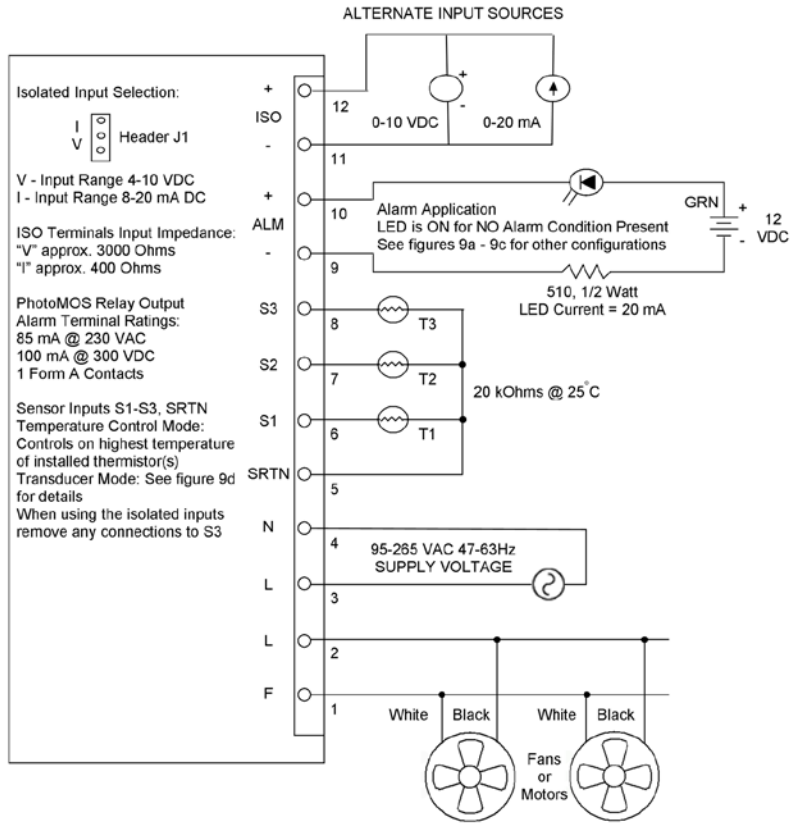

Figure 9: Wiring Diagram
**Fan Connections:** Connect fan or fans to positions marked F (red) and L (black). Any number of fans may be controlled in parallel from one unit as long as the total current does not exceed the current rating. See table 1 and figure 9.
**Temperature Sensor Selection and Connection:** The Nimbus will accept signals from up to 3 temperature sensors and control fan speed based on the hottest sensor. Choose an air, surface or liquid temperature sensor from the CRI catalog or website at [www.controlres.com](http://www.controlres.com). Each sensor, S1, S2, S3 shares a common return marked SRTN. **CAUTION: SRTN is a non-isolated input; use CRI sensor P11-F or other sensor with a jacketed cable if installing temperature sensors in a dwelling.** When fewer than 3 sensors are used, sensors may be hooked up to S1, S2 or S3. In “Temperature mode”, if no sensors are connected or all sensors read below -25°C, fans will run at full speed and the temperature alarm will activate. The Nimbus can also be supplied with a board mount sensor, contact customer service for details. See wiring diagram, figure 9.
The alarm output is a normally open, optically isolated MOS Relay. When no alarm condition is present, the relay is closed and can conduct up to 100 ma. AC or DC, of load current. When the alarm is triggered, the relay opens, and can support up to 300 Volts AC or DC across its terminals. Other alarm trigger points can be supplied, contact customer service for details. See figure 9, 9a, 9b or 9c for possible alarm configurations.
**Current or Voltage Control Signal Connections:** When used in the current or voltage control mode (see table 2), connect a 0-10VDC or 0-20mA control signal to –ISO+ as shown in figure 9.